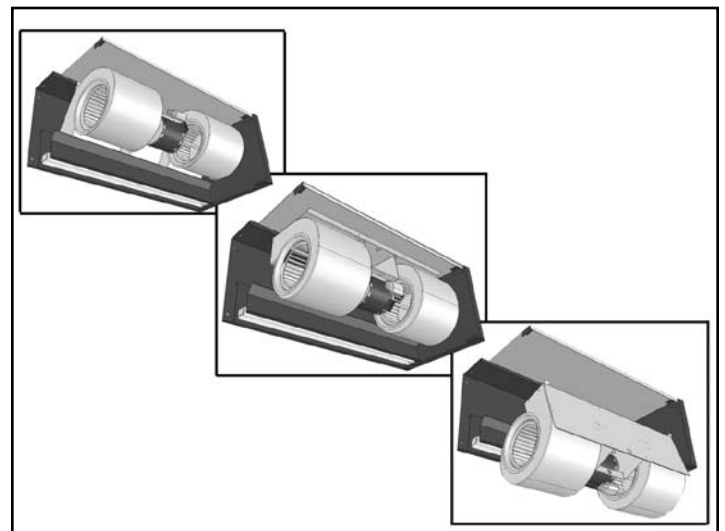

FIGURE 13 - Removing the Blower Module
6. Rotate the module top forward and drop it down through the bottom of the unit. **See Figure 13.**